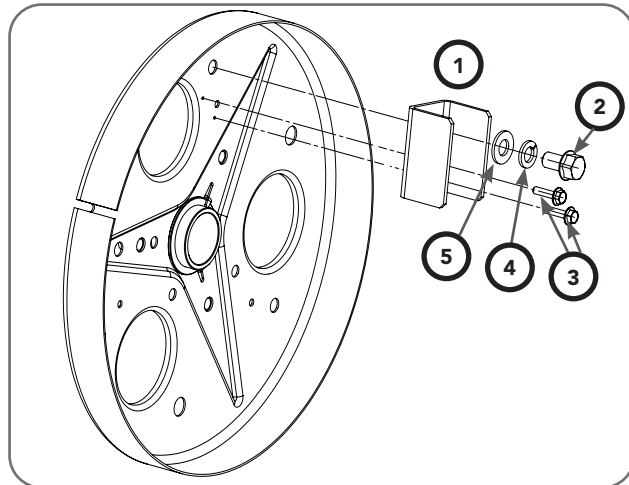

Fig. 6.5.2
- Place the U Shape Adaptor (1) on the drum wheel as shown in Fig 6.5.2 and secure it using the spring (5) and flat washers (4), 2 x self tapping screws (3) and the hex head screw (2).